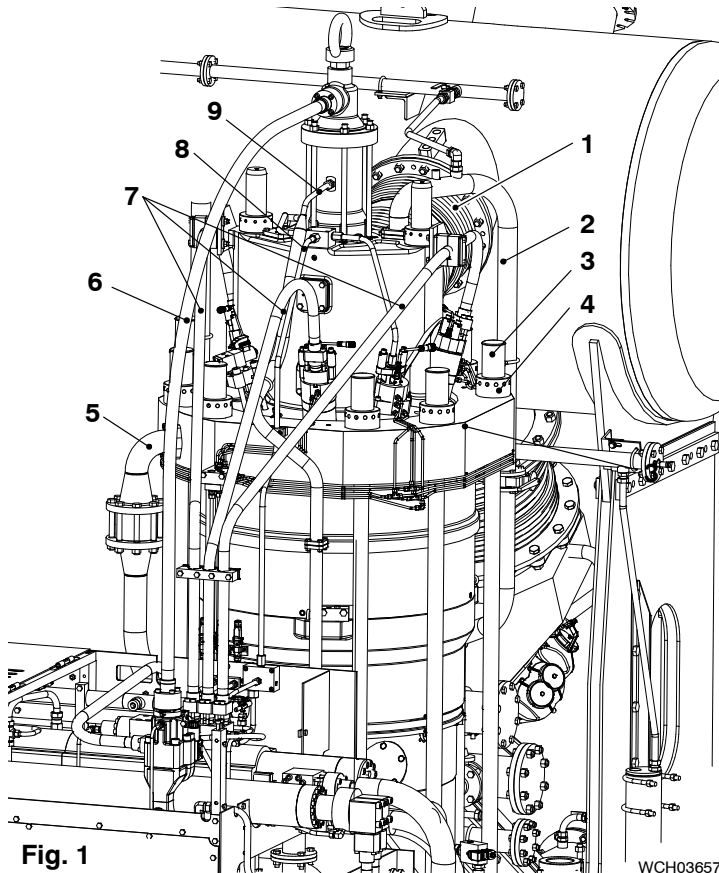

Fig. 1
- 8) Close the valves from the fuel supply and pilot fuel supply. Make sure that there is no pressure in HP fuel pipes (7, Fig. 1) and pilot fuel pipe (8).
- 9) Remove the hydraulic pipe (6), refer to 8460-1.
- 10) Remove the three HP fuel pipes (7), refer to 8733-1.
- 12) Make sure that there is no pressure in the cooling water pipe (2).
- 13) Remove the cooling water pipe (2).
- 14) Remove the expansion piece (1), refer to 2751-1, paragraph 2, step 3) to step 9).
- 15) Close the starting air valve. Disconnect the air pipe (5) from the cylinder cover.
- 16) Remove the oil leakage pipe (9) and the pilot fuel pipe (8).